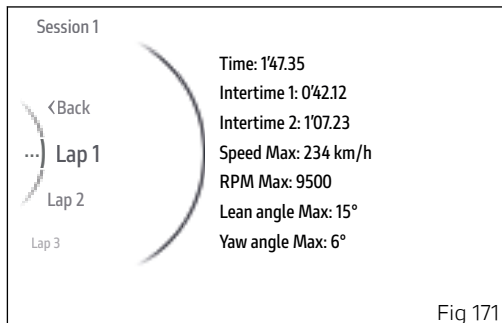

Fig 171
To view the LAPs memorised in one session, select the desired session and press the ENTER button (3). The display will show all the laps recorded in the selected session (Fig 171).